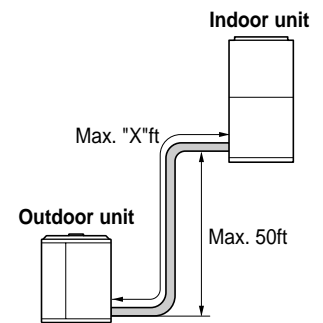

Fig. 2
- The maximum line set length is listed in Table 3. Refer to Figure 2 for dimension measurement.
- Indoor unit may be a maximum of 50 feet above outdoor unit (See Figure 2).